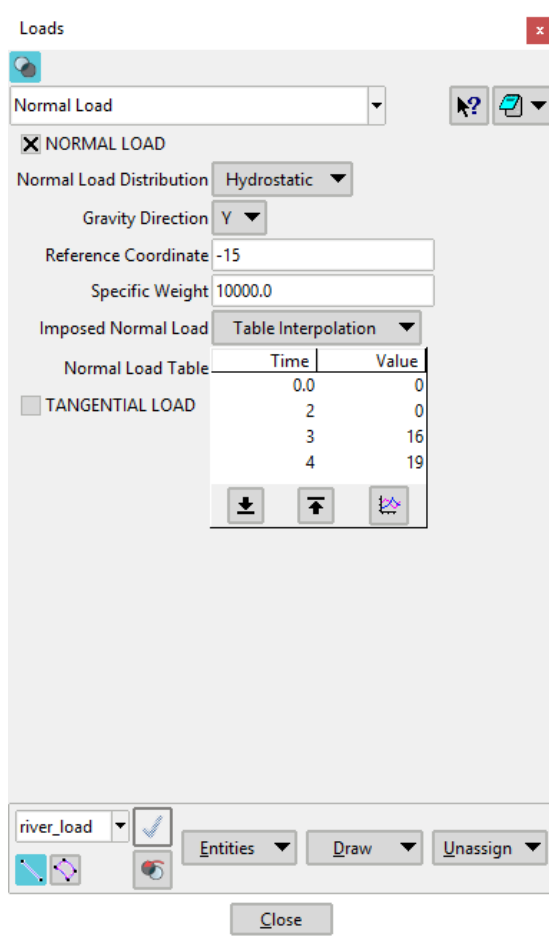

Figure 8.8: River load tutorial 1
- 16 The water pressure due to the river water level is now set, however since the water level lies above the surface, it is required to explicitly define the normal load due to the water. Click on *GeoMechanicsApplication* -> *Loads*. From the top drop-down menu in de Loads window, select *Normal Load*. Fill in the values as shown in Figure 8.8. Assign the condition to the lines 17 and 18.